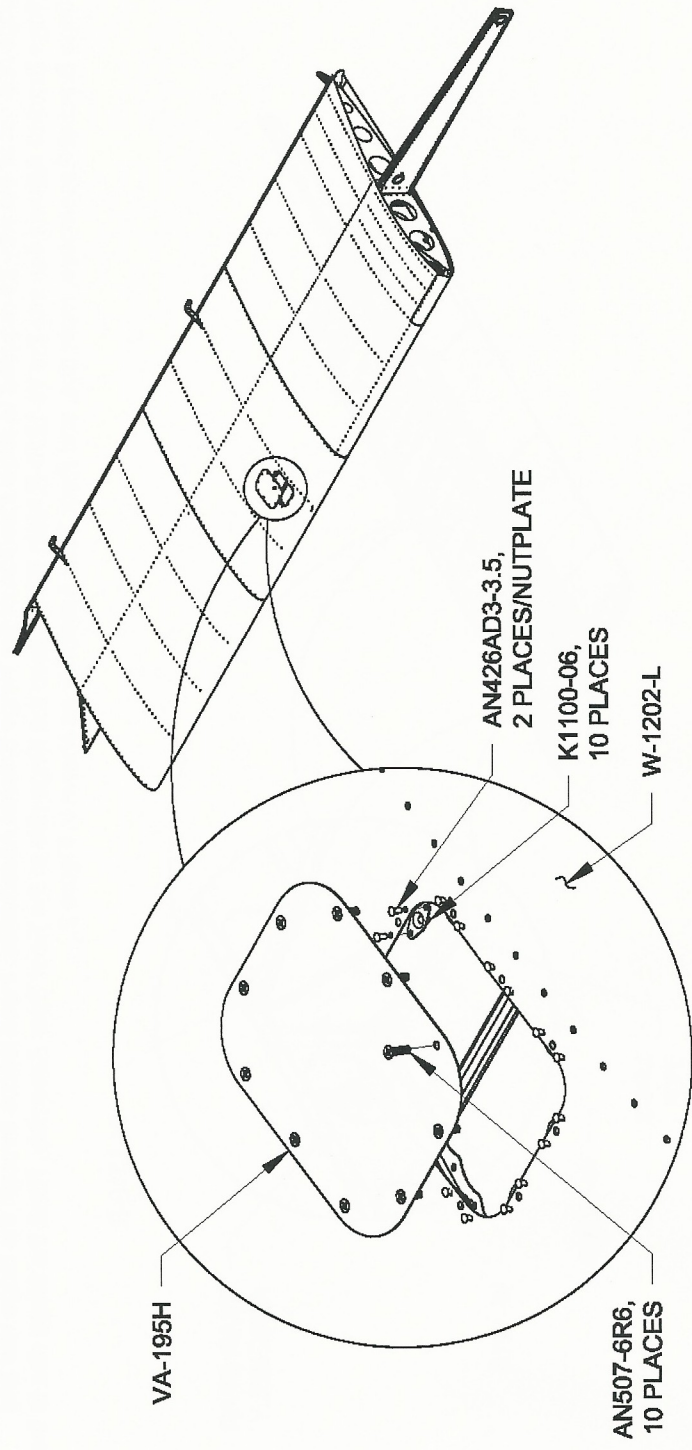

FIGURE 4: INSTALLING ACCESS HATCH
Step 5: Flip-over the wing placing it upside-down on the table. Dimple the screw holes in the W-1202-L Mid Wing Skin and in the VA-195H Access Hatch as shown in Figure 4. Dimple the rivet holes in both the nutplates and in the mid wing skin for the access hatch as shown in Figure 4. Install nutplates on the mid wing skin as shown in Figure 4. Install the access hatch.